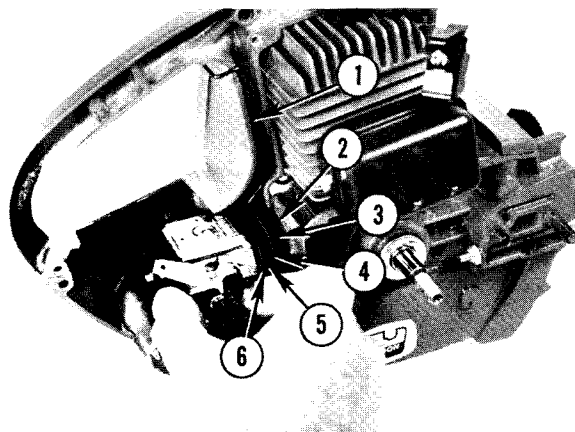

Fig. 22 — Installing Carburetor
16. Install reed plate, carburetor and throttle linkage, Fig. 22.